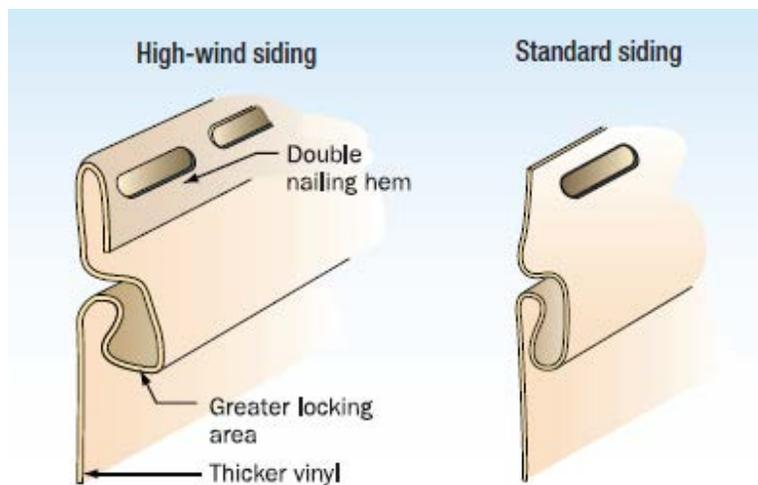

Figure 3.2.2. Features of typical high-wind siding and standard siding.
- EIFS and vinyl siding are especially at risk to wind and debris damage; replace these materials with fiber cement siding, high-wind-rated vinyl siding or another impact-resistant exterior finish (Figure 3.2.2).